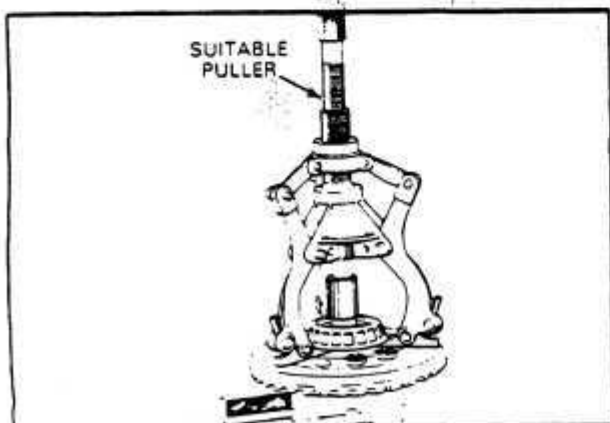

Fig. 77
2. Remove the carrier bearing on the ring gear side using a suitable puller. Fig. 77